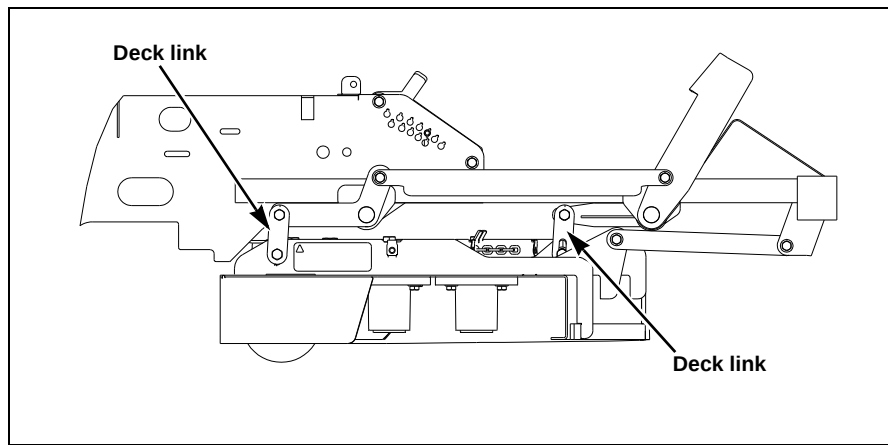

Figure 6-4
9. Tighten the three deck links to the deck with the flanged nuts clamping on either side of the slot with 48 ft.-lbs. of torque. Release the lift pedal and ensure that the deck can be raised and locked into the transport position. Figure 6-4 ..